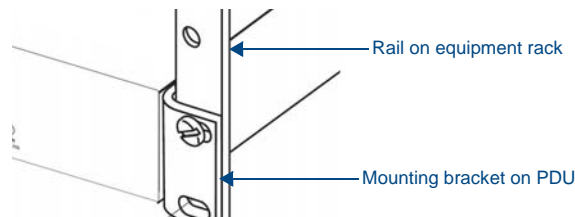

FIG. 5 Installing the PDU in a Rack
2. Mount the PDU in the rack, using 4 rack-mounting screws (not provided, see FIG. 5).